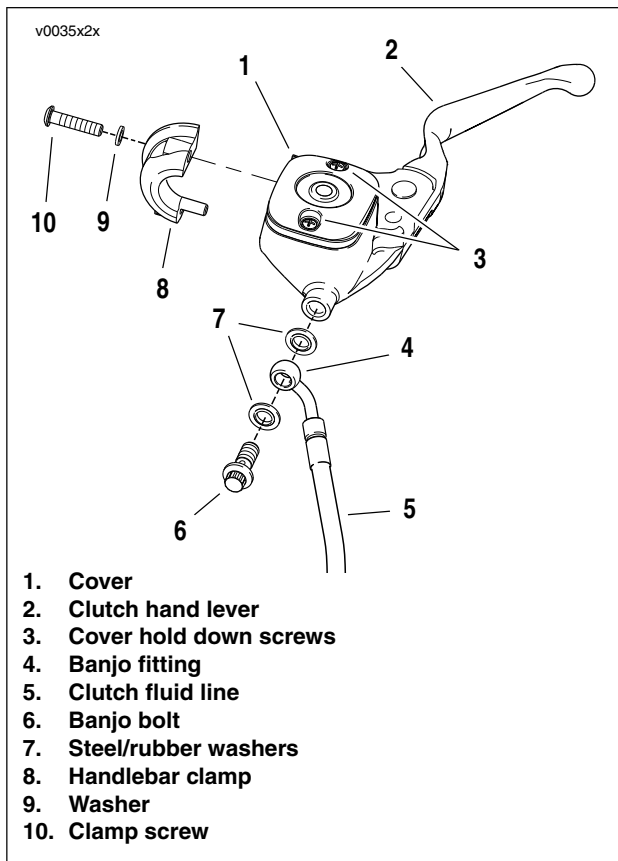

Figure 2-18. Clutch Master Cylinder/Reservoir
3. See Figure 2-18. Loosen, but do not remove, screws with flat washers that detach handlebar clamp from clutch master cylinder/reservoir.
- See Figure 2-18. Attach master cylinder/reservoir to handlebars with handlebar clamp. Orient lever to rider position and tighten two clamp screws.